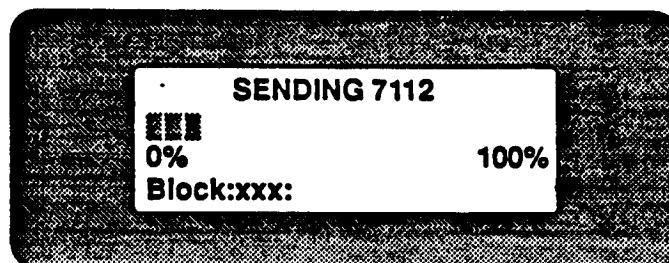

Figure 28: SENDING PROGRAMMER UPDATE PROGRESS
3. Press the white **ENTER** key. The message **WRITING for Handler Request...** is displayed. When the handler request from the Receiving Programmer is detected, the Sending Programmer transfers the requested handler. The progress of the handler transmission is displayed (see Figure 28). If the transfer is successful, the message **UPDATE SUCCESSFUL** is displayed. If the transfer is not successful, the message **UPDATE FAILURE** is displayed. The cursor returns to the **UPDATE** menu.
3. Wait until the phone rings, and then press the white **ENTER** key. The message **WAITING for Handler Request...** is displayed. When the handler request from the Receiving Programmer is detected, the Sending Programmer transfers the requested handler at 300 baud. The progress of the handler transmission is displayed (see Figure 28). If the transfer is successful, the message **UPDATE SUCCESSFUL** is displayed. If the transfer is not successful, the message **UPDATE FAILURE** is displayed. The cursor returns to the **UPDATE** menu. To update additional handlers, repeat steps 2 and 3.
3. One end of the RAM card has a shiny metallic strip, and the other end has a write-protect switch. Insert the metallic-strip end of the RAM card into the RAM card slot (see Figure 28) with the shiny metallic strip facing *down*.